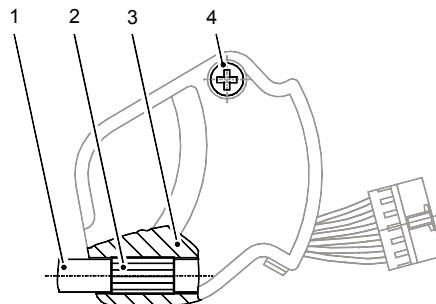

Figure 9 Fastening the screening
4. Press the metal sheathing (2, Figure 9) on the encoder cable (1, Figure 9) into the cover (3, Figure 9), secure the cover (3, Figure 9) with the screw (4, Figure 9).